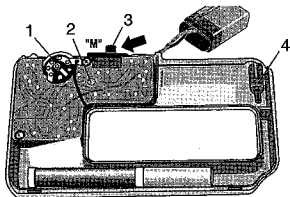

Fig. 3
2. Set selector switch 3 (Fig. 3) to setting "M".
3. Completely rotate the adjuster wheel (Fig. 3) to the limit stop and then in the reverse direction by 1/2 the number of rotations.
4. Adjust the potentiometer (2) using a small screwdriver 4, (supplied in housing) so that the display illuminates.
5. For testing purposes, slightly rotate the adjuster wheel (1) in the reverse direction. The LED must extinguish.